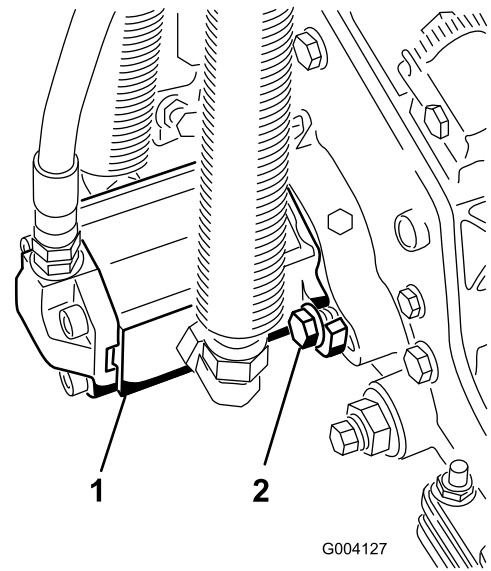

Figure 14
11. Install the motor by rotating it clockwise so that the motor flanges clear the cap screws (Figure 14).